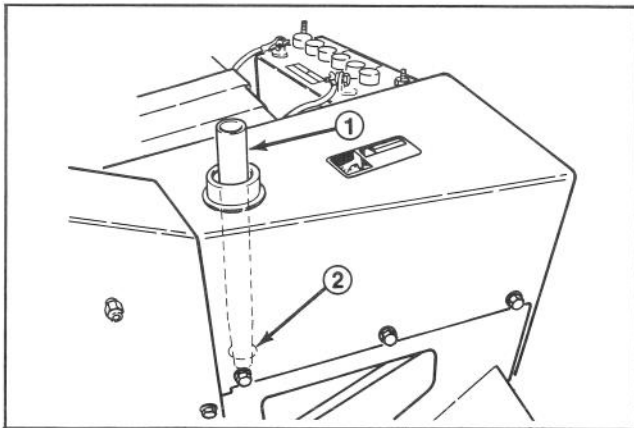

Figure 39
- 2. If only the filter is to be changed, remove reservoir cap and insert reservoir plug (Fig. 39), to block outlet.